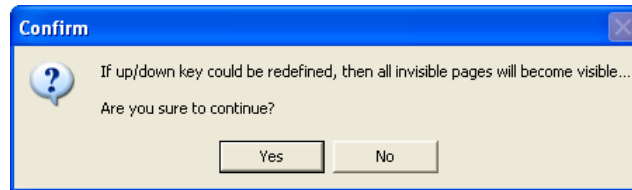

Figure 5-11 Confirm window
**Hide Page Setting** is used to hide the page which is edited. The page which is hidden will not be displayed on the screen of the TP series text panel used if the Up key or the Down key on the TP series text panel is pressed. After users click **Hide Page Setting** on the **Local Page Setting** menu, or right-click a page and then click **Hide Page Setting** on the context menu which appears, **Hide Page Setting** on the **Local Page Setting** menu will be checked. If the users click **Hide Page Setting** on the **Local Page Setting** menu again, the page which is edited will not be hidden. A page which is hidden can be displayed on the screen of a text panel by means of **Page Jump Condition Setting** or a **Page Jump** button. If the users select the **Auto-Re-Define Up/Down Key** checkbox in the **Basic Configuration** window, the **Confirm** window shown in Figure 5-11 will appear. After the